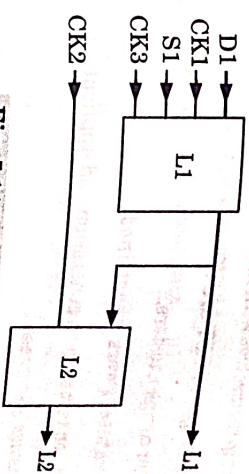

Fig. 5.14.1. Level sensitive scan design (LSSD) configuration.
1. This technique incorporates two aspects level sensitivity and a scan path approach. The general arrangement is indicated in Fig. 5.14.1.